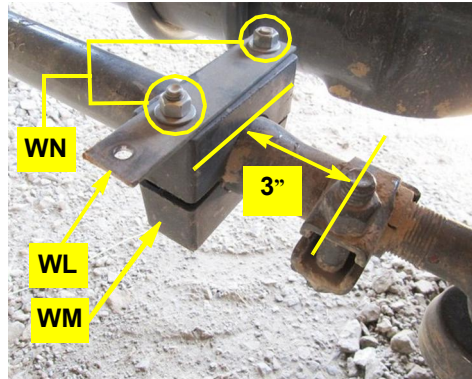

Figure 2b: WAS link rod mounting bracket installed
- b. Using hardware **WN** mount the rod link bracket/clamp assembly **WL/WM** as follows (Figure 2b):